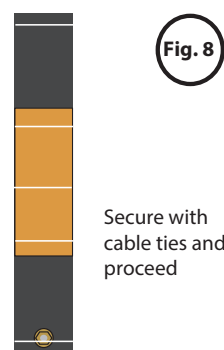

Fig. 8
9) Loading the Packer: Secure the packer using two "double" ties (one on each end of the folded packer about 18" from either end.) Using three additional sets of the doubled nylon ties, secure the wetted patch to the packer by attaching one set of ties around the center of the patch and packer with the remaining two sets of ties secured on each end of the patch (Fig. 8). Pull/carry the packer and patch to the position of the point of repair as marked on the air hose/pull cables.